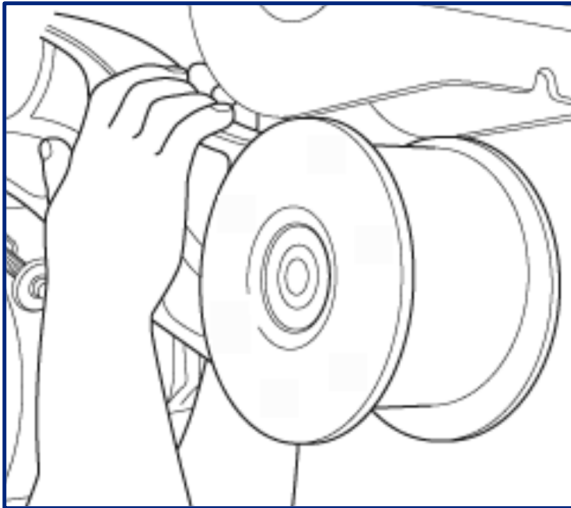
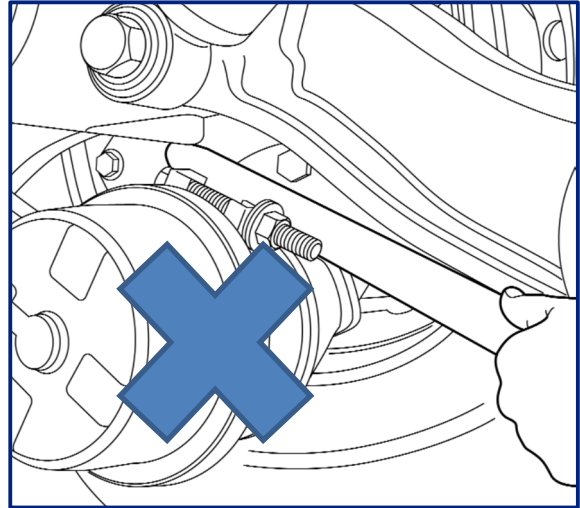

Fig 14
Fig 15
8. Carefully rotate the trailing arm until clear of the hanger bracket (Fig 14). DO NOT lever off the brake chamber as shown (Fig 15).